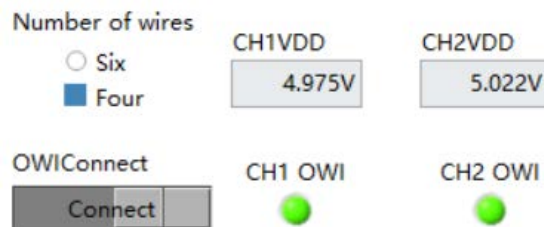

Figure 5.2.8 OWI Connect
- Click on the "Four" option under "Number of wires" to choose the chip connection mode (as described in detail in the hardware connection diagram in the third chapter). Click the "OWI Connect" button to establish communication between the programmer and the chip. When the connection is successful, the programmer connection indicator light will turn solid green (Figure 5.2.8).